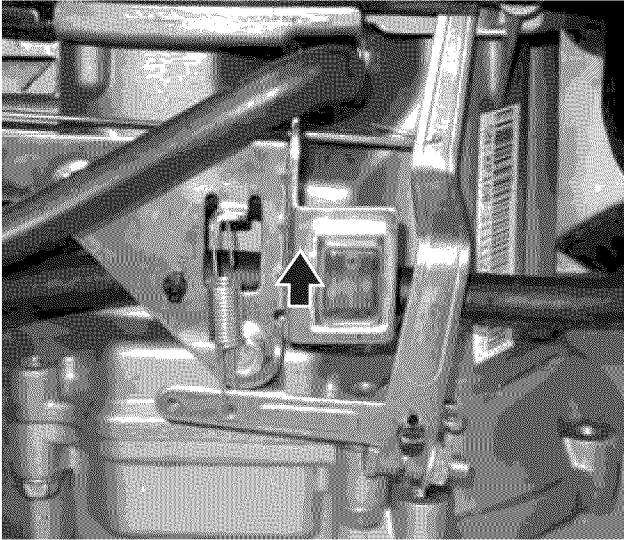

Figure 38 – Engine Stop Switch OFF Position
2. Move the engine stop switch up to the **OFF (O)** position (see Figure 38).